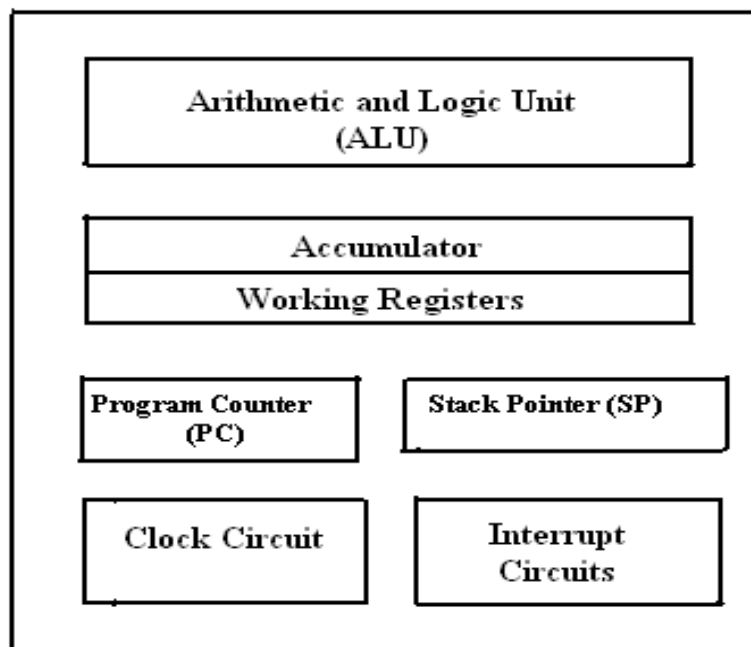

Fig.1: Block diagram of a Microprocessor.
- ✓ The microprocessor contains arithmetic logic unit (ALU), Control unit, Instruction register, Program counter (PC), clock circuit (internal or external), reset circuit (internal or external) and registers.
- ✓ The block diagram of the Microprocessor is shown in Fig.1